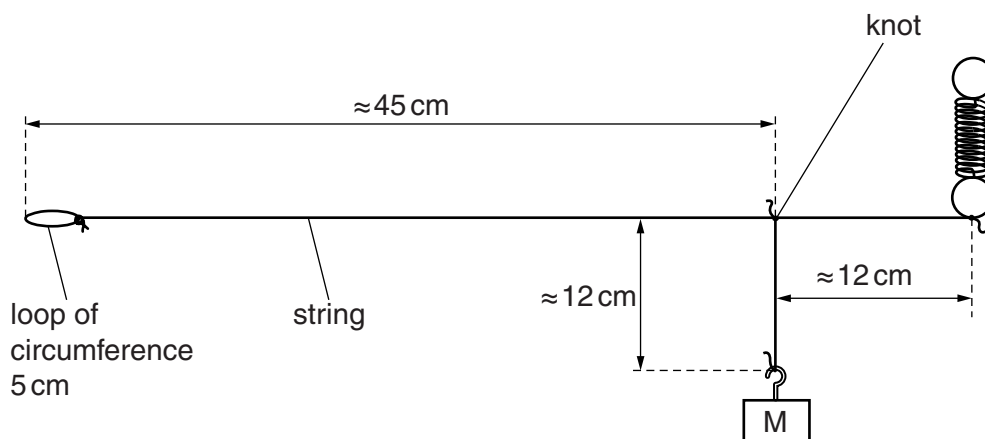

Fig. 1.1
- 1 Use string to connect M and the spring, with an additional length attached securely as shown in Fig. 1.1.